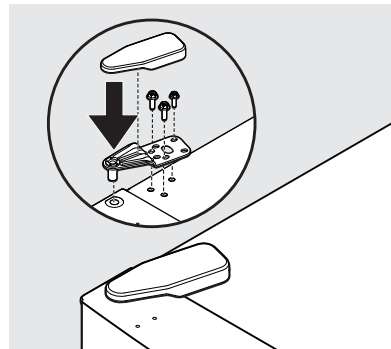

Figure 7
13. Attach the upper hinge using the three 5/16" screws. Replace the hinge cover. Plug in electrical power cord (see Figure 7).